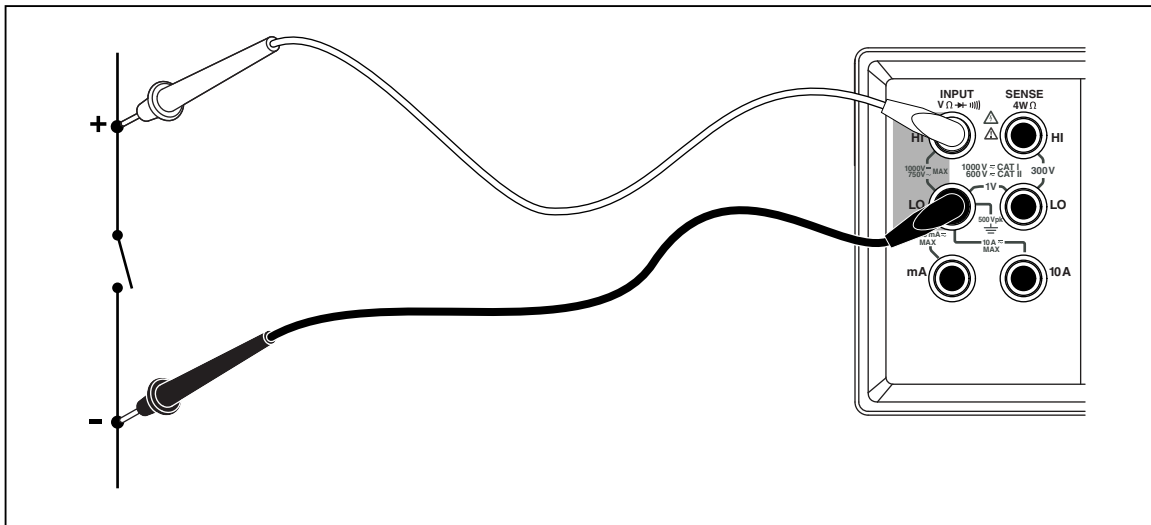

Figure 3-10. Continuity Test
2. Connect the test leads between the Meter and the circuit under test as shown in Figure 3-10.